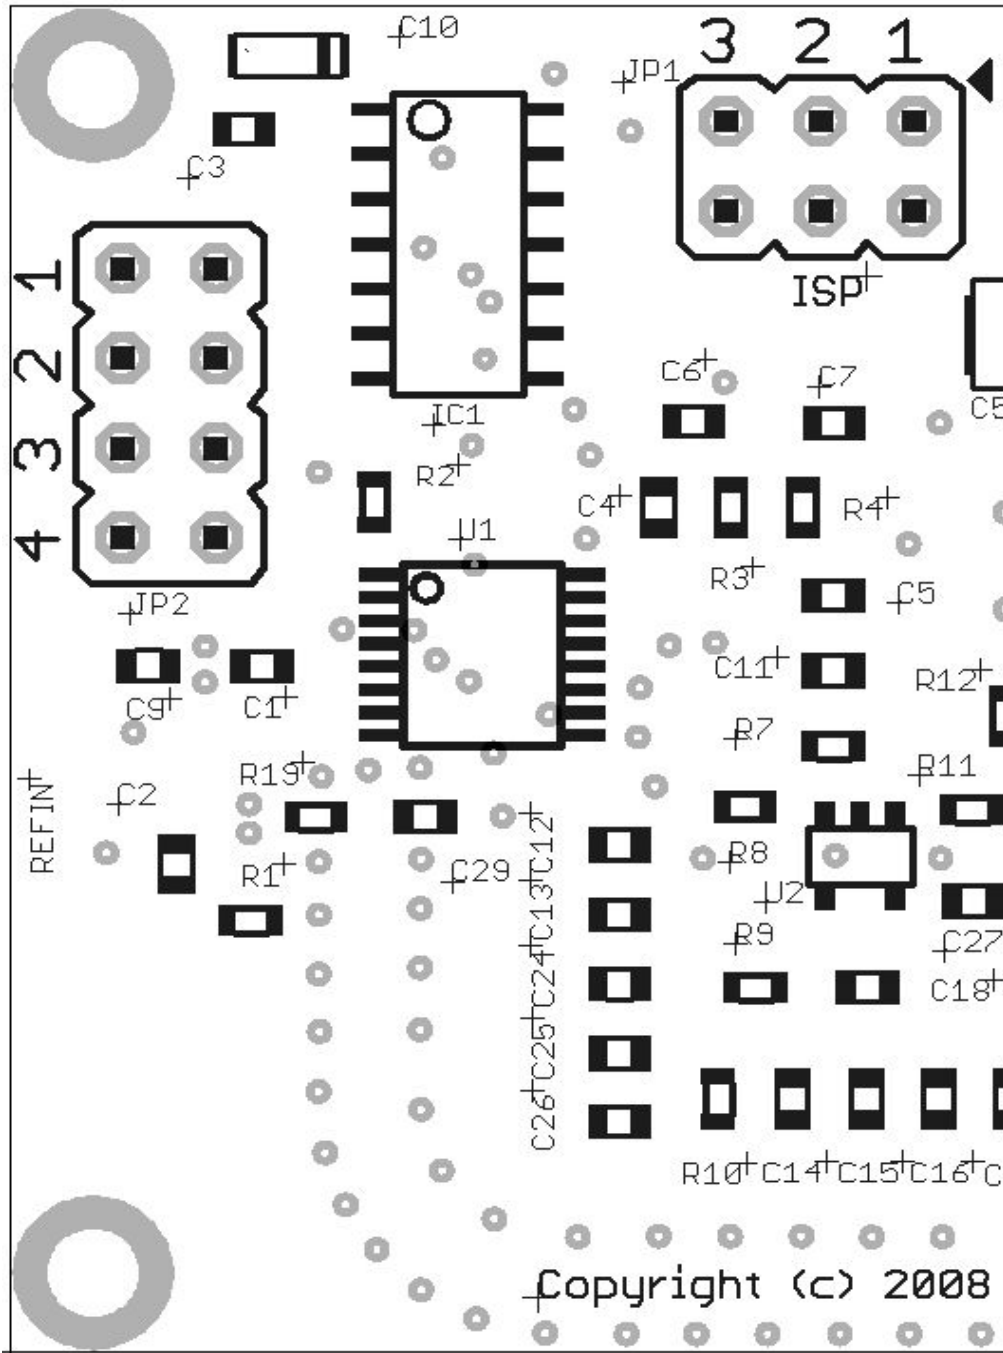

Figure 1
Opening the Model 1152-ALN to change Reference Frequency Options is accomplished by removing the six (6) 0-80 Phillips head screws from the top cover. These screws are very small so put them in a safe place until time to put them back. After the cover is opened, you will notice there are (4) four jumper options (JP2) in the upper left corner next to the reference-input port. *See figure 1 below.* There is only one jumper shunt included with the unit as shipped, and jumper positions 1,2 and 3 are not used on the Model 1152-ALN.
Remember the “**O**” is for **OPEN** (no jumper installed), and “**S**” is for **SHORTED** (jumper installed). The jumper layout is shown in Figure 1. Changing a jumper will automatically select the new reference frequency option and will not require the unit to be power cycled.